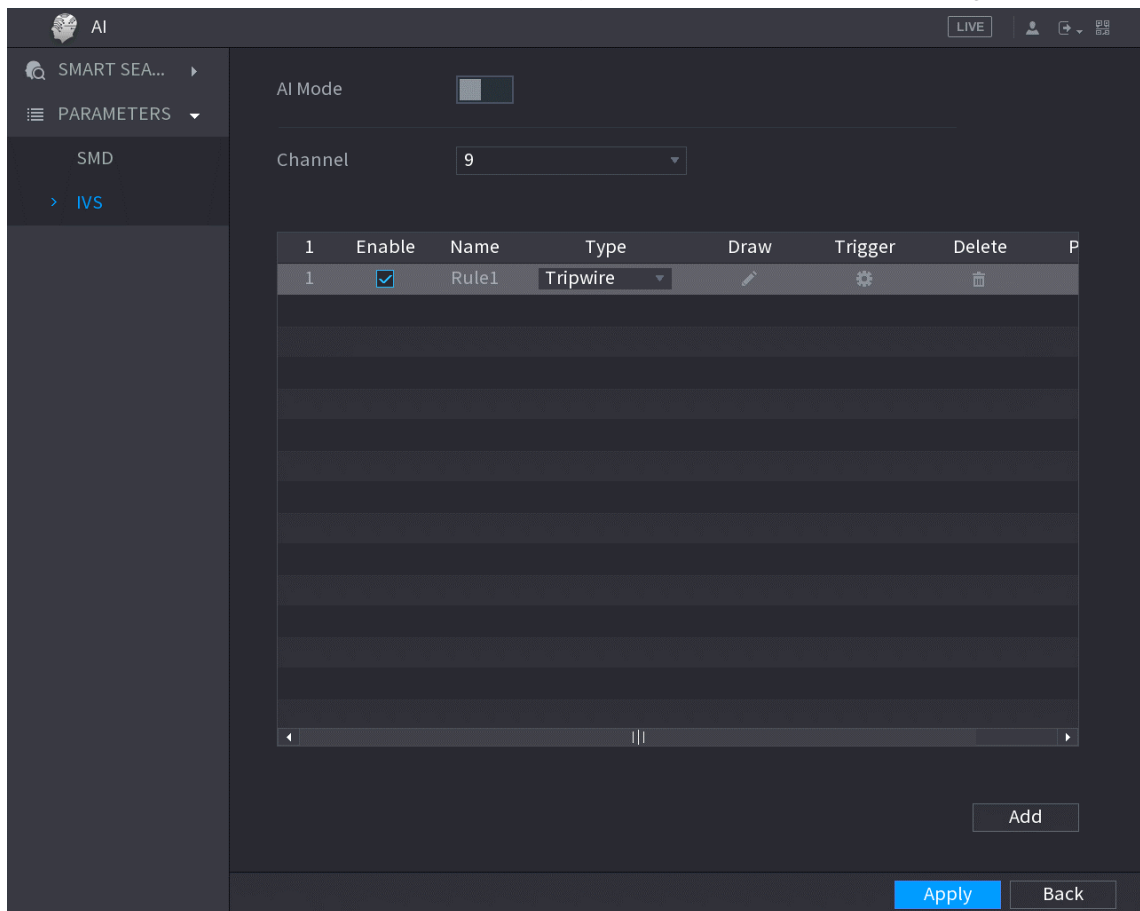

Figure 5-182
Step 1 On the rule line that you added, in the **Type** list, select **Tripwire**. See Figure 5-182.